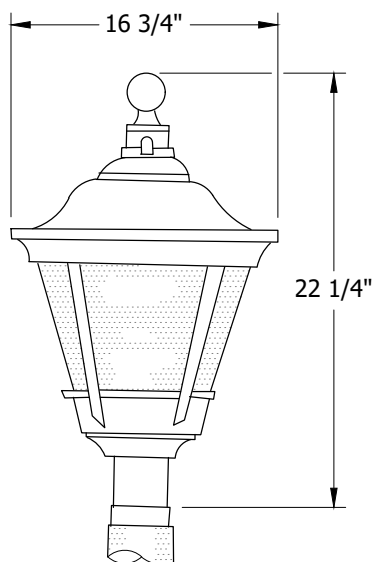

FIGURE 4
- B. FIGURES 1, 2, 3, AND 5 ARE EQUIPPED WITH ACRYLIC REFRACTORS. FIGURE 4 IS EQUIPPED WITH GLASS REFRACTORS.
- (C) THIS LUMINAIRE SHALL BE INSTALLED SO THAT THE LADDER ARM IS PARALLEL TO THE CURB.